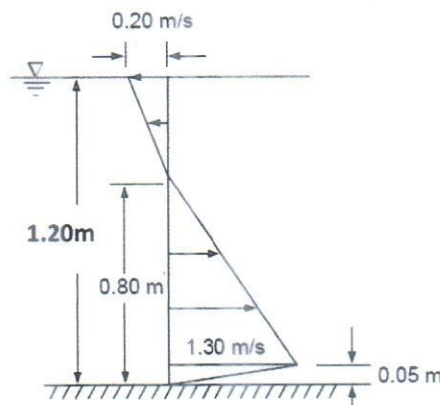

Figure 1.
For the velocity distribution given in Figure 1, calculate the values of  $\alpha$  and  $\beta$ . (07)